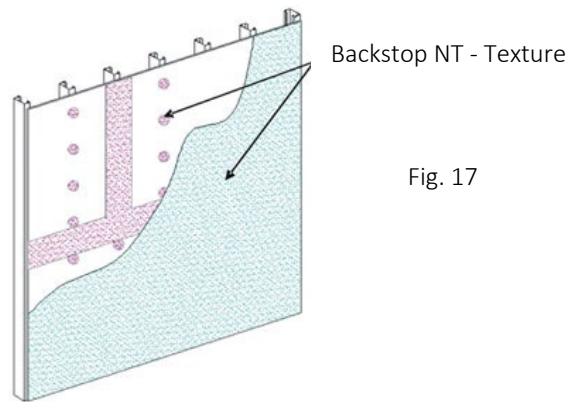

Fig. 17
- a. General: Dryvit Backstop NT – Smooth can be applied using a roller or sprayed and back-rolled over the acceptable sheathing substrates. **NOTE: OSB sheathing requires that joints and fasteners be treated with Backstop NT – Texture. A minimum of two (2) coats of Backstop NT – Smooth or Backstop NT – Spray are required for the field of the wall. Backstop NT – Texture is not recommended for application in the field of the board.**
- 2) Backstop NT – Smooth material should be applied in a uniform, continuous film at the recommended coverage rate – Figure 17. **NOTE: Sheathing substrates with a surface texture or high porosity will require additional material.**